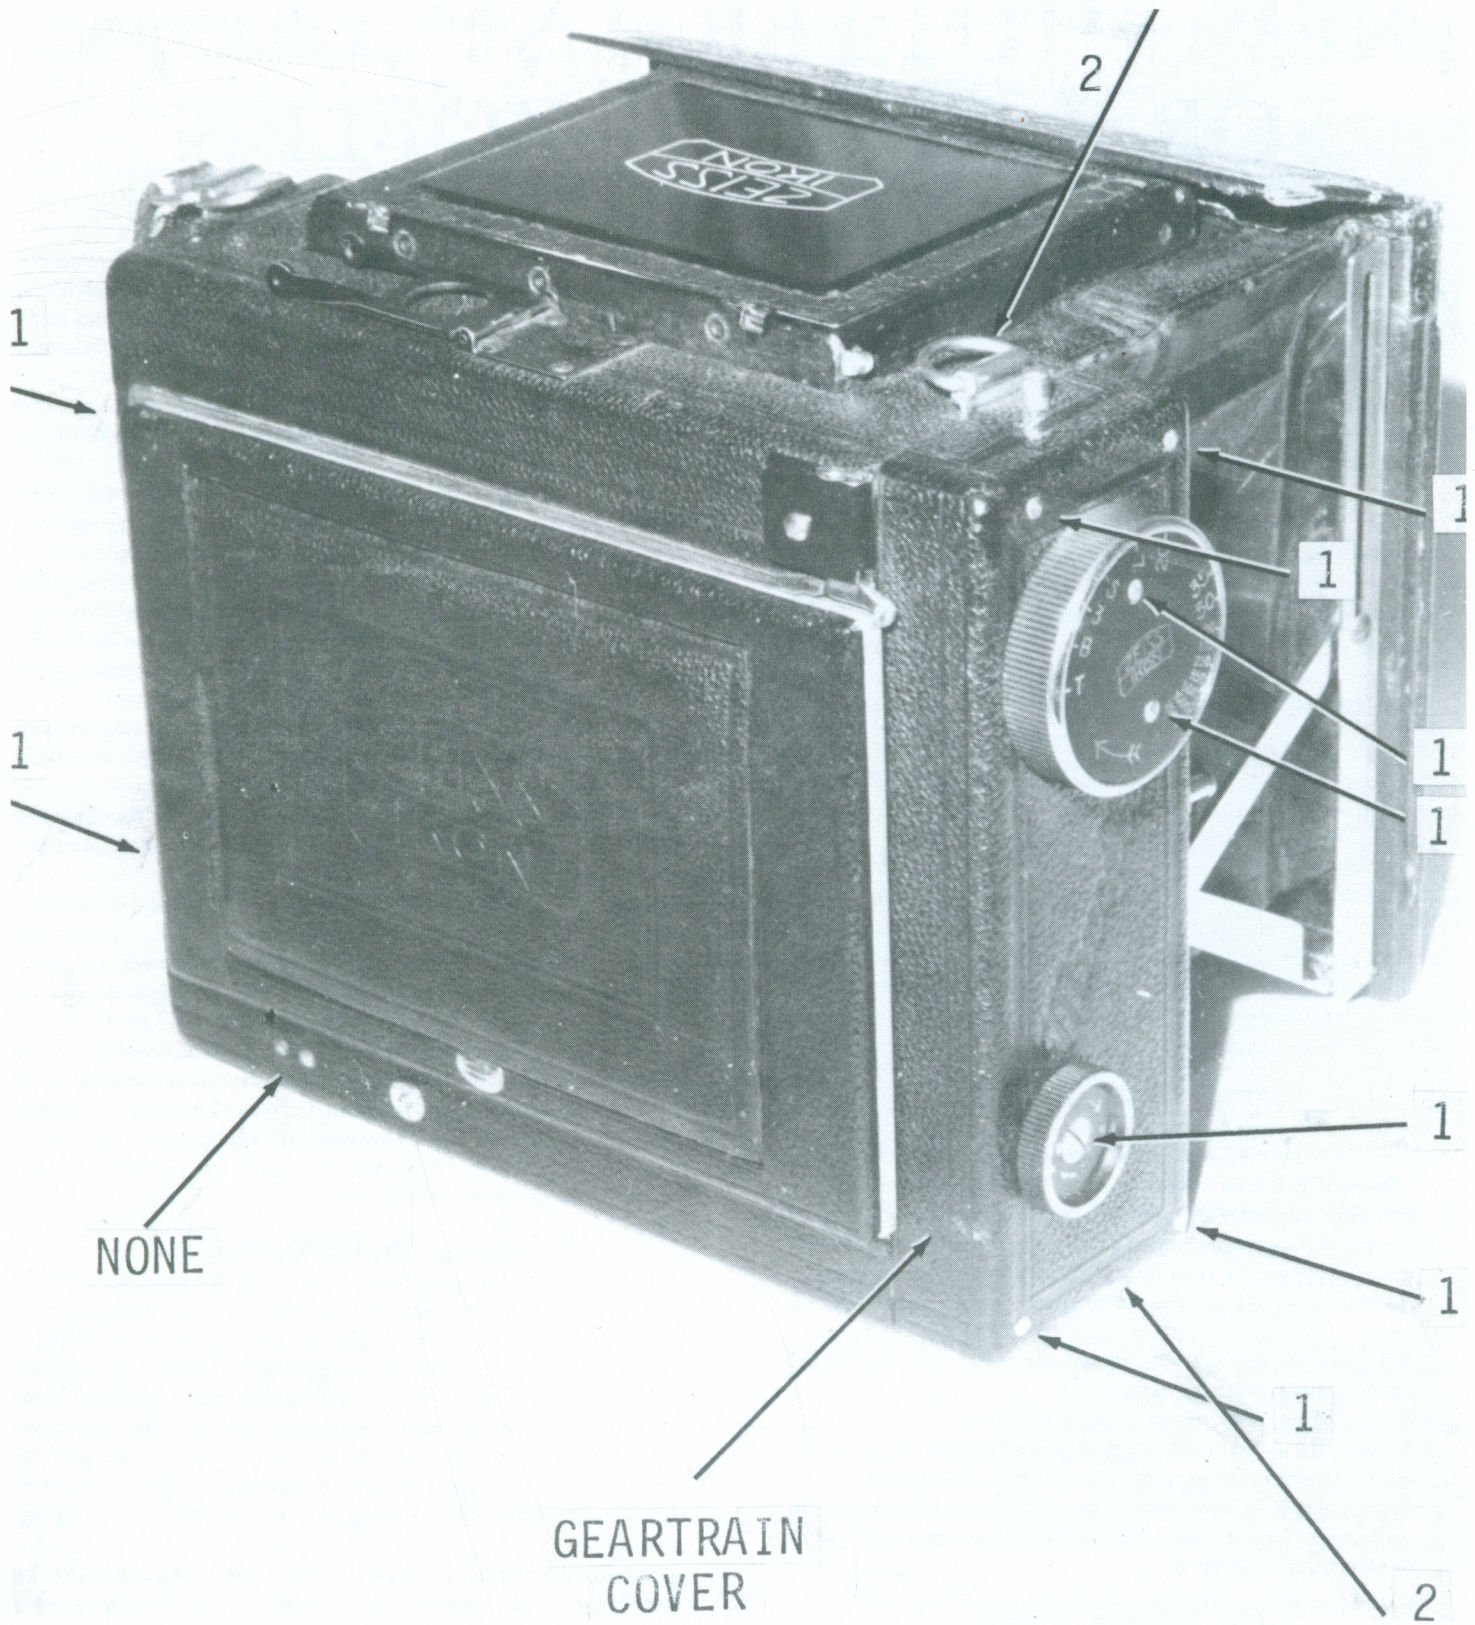

Figure 1. Access to the Miroflex for repairs.
- Remove screws as follows (See Figure 1): 4 screws — one at each corner of geartrain cover, 1 screw in mirror return knob, 2 screws in camera body top front and 2 in bottom front, and 2 screws on the opposite end of the camera from the gear box. (Do not remove the 2 screws on the bottom left of the back side.)